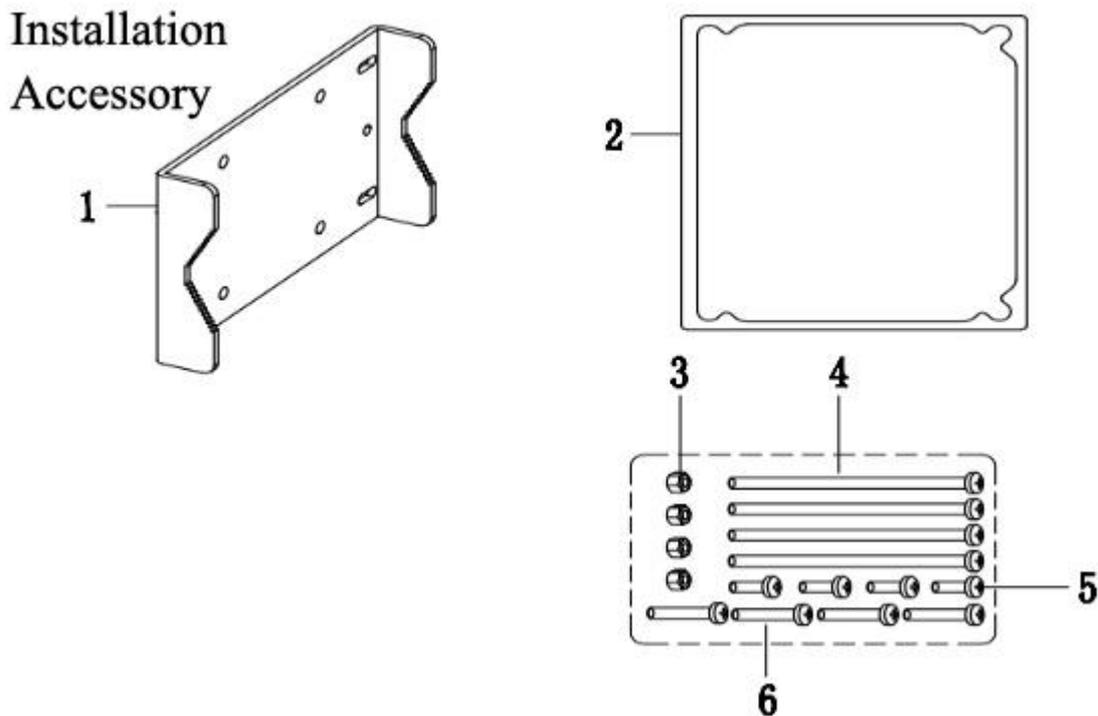

Figure 2 Installation Components
- ① Figure 2 shows the transmitter installation components.